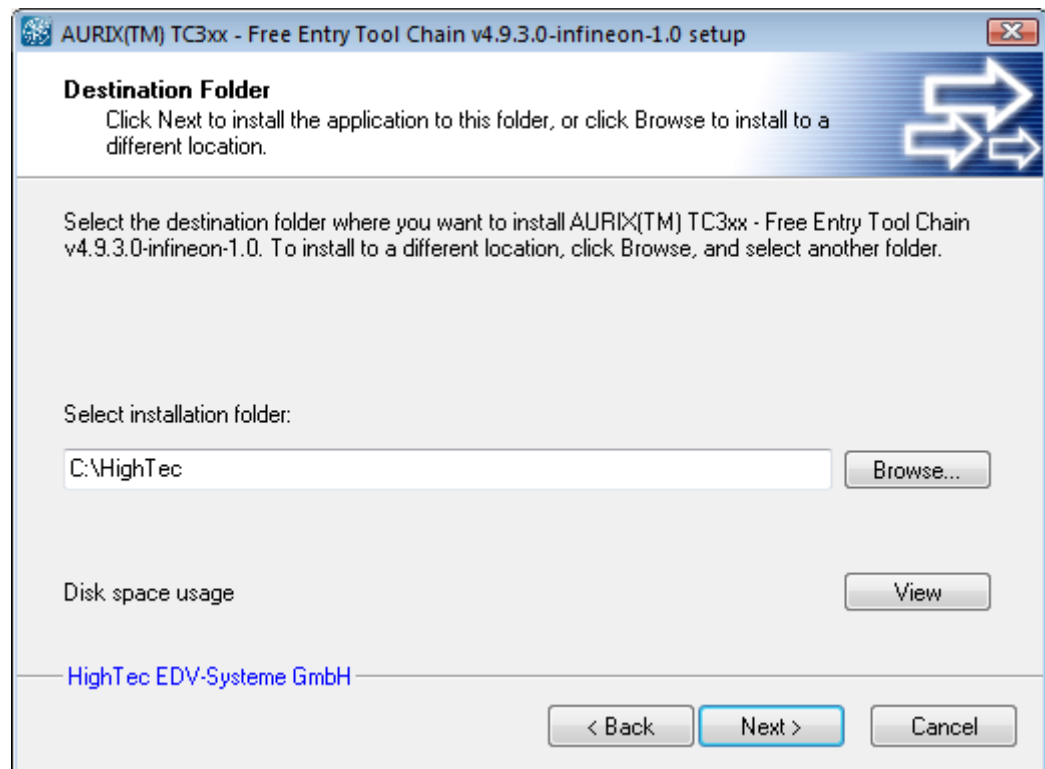

Figure 4 Free TriCore Entry Tool Chain Setup folder dialog
4. Click **Next** button. The dialog for selecting the installation directory appears (Figure 4). Use the default or select another installation directory.